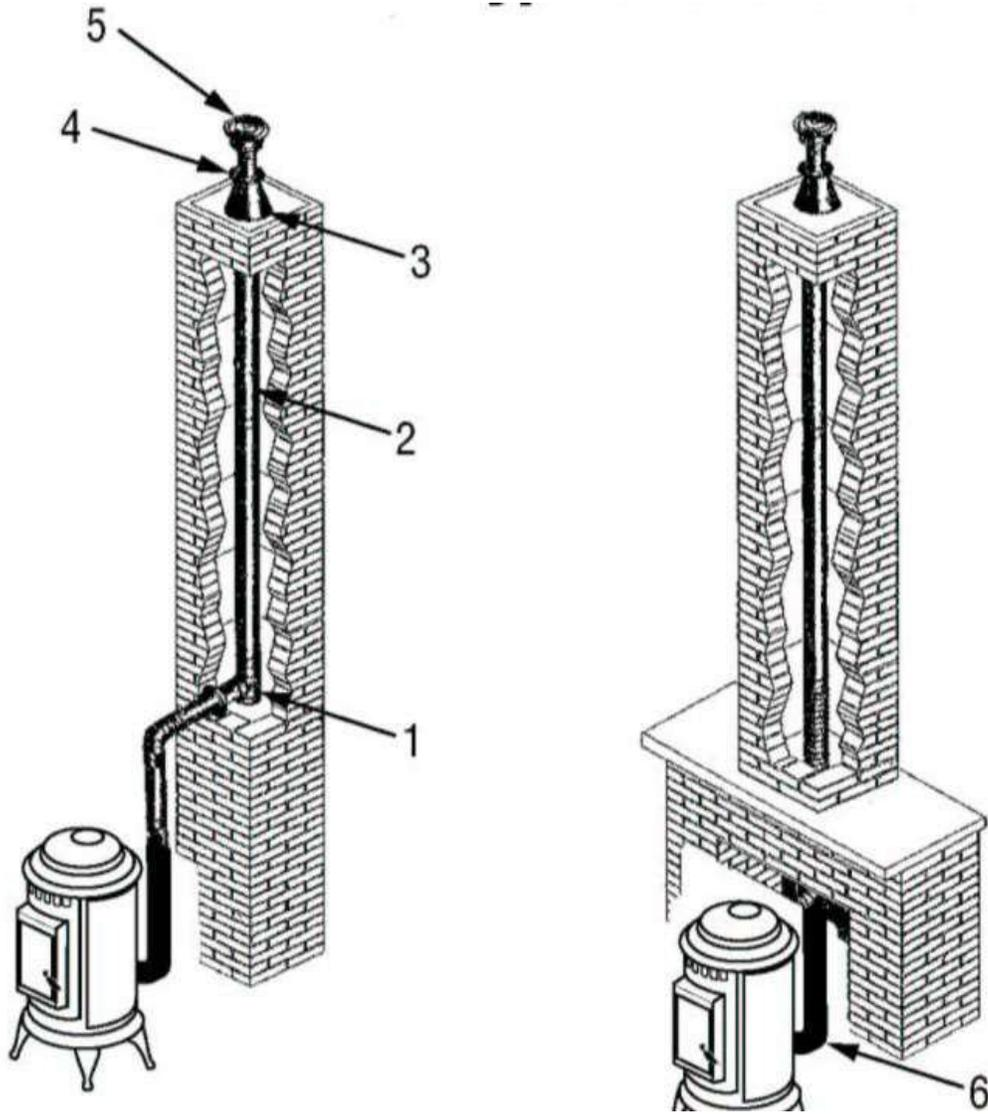
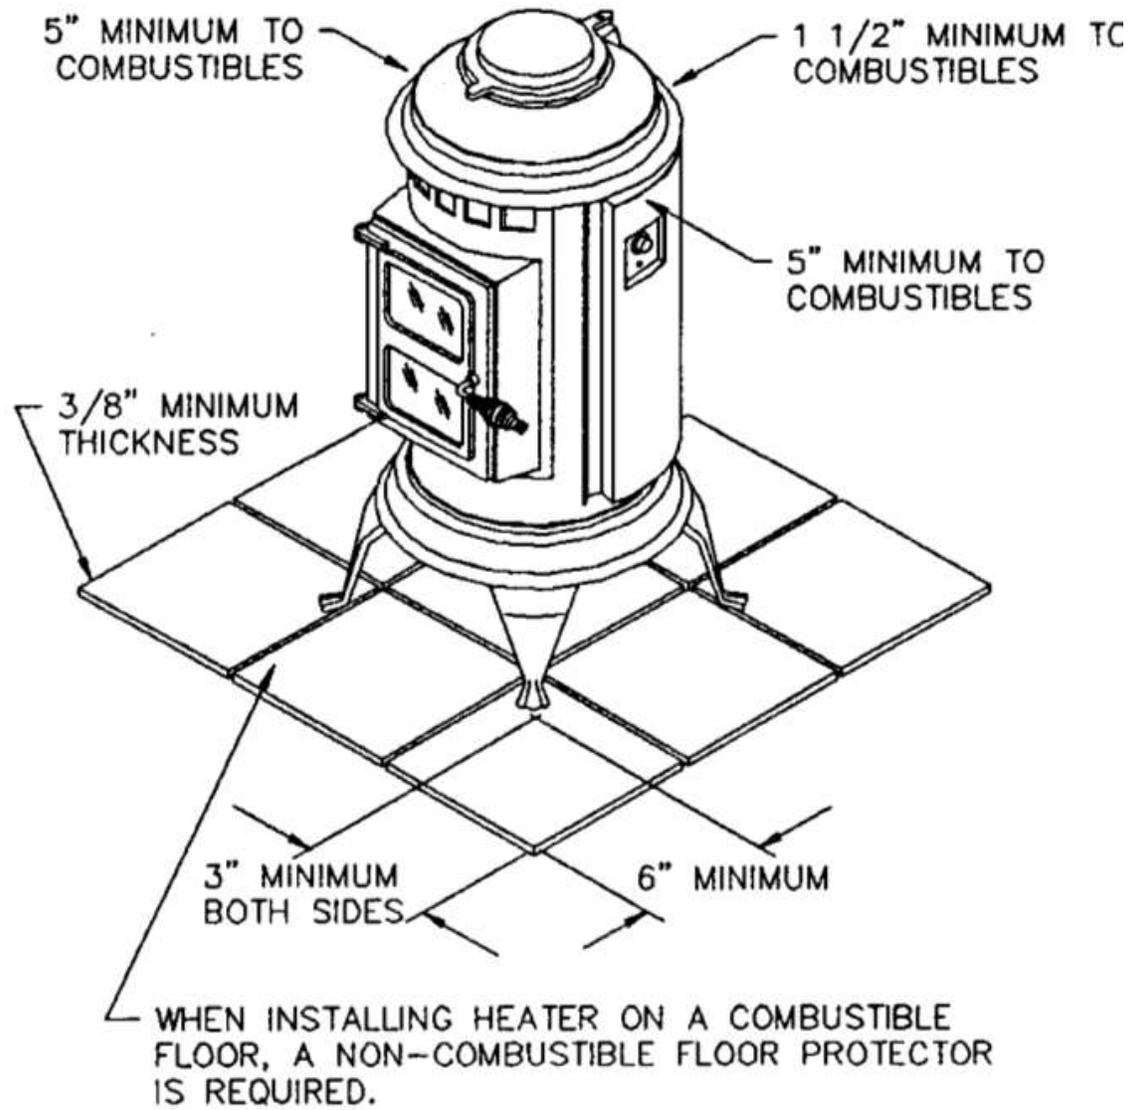

FIGURE 5
FIGURE 6
5. A 5-inch clearance to combustibles must be maintained between unit and sidewall. A 2- inch clearance to combustibles must be maintained between unit and back wall. If installed in a corner, clearance must be 5" to combustibles. See **FIGURE 6**.
6. A non-combustible hearth pad must be used if installed on a carpet, wood floor, or other combustible material (see **FIGURE 6**). Maintain 6" (152mm) beyond the front and beyond each side of the fuel loading and ash removal opening.
7. Keep front door of appliance thirty-six (36) inches from combustibles (drapery, furniture).
9. All installations have a recommended maximum of two 90 degree elbows including the tee. Basement and installations into existing chimneys (see **Figure 5**) one additional elbow is allowed with minimum 12' vertical rise. NOTE - two 45 degree elbows = one 90 degree elbow.
10. A **MAXIMUM HORIZONTAL RUN** of two feet is recommended. Installations into basements and existing chimneys (see **Figure 5**) allow for an additional two foot horizontal run totaling four feet with a minimum of twelve foot vertical rise. Additionally, a continuous horizontal run of more than two feet should incorporate a $\frac{1}{4}$ " per foot vertical rise for proper drafting.